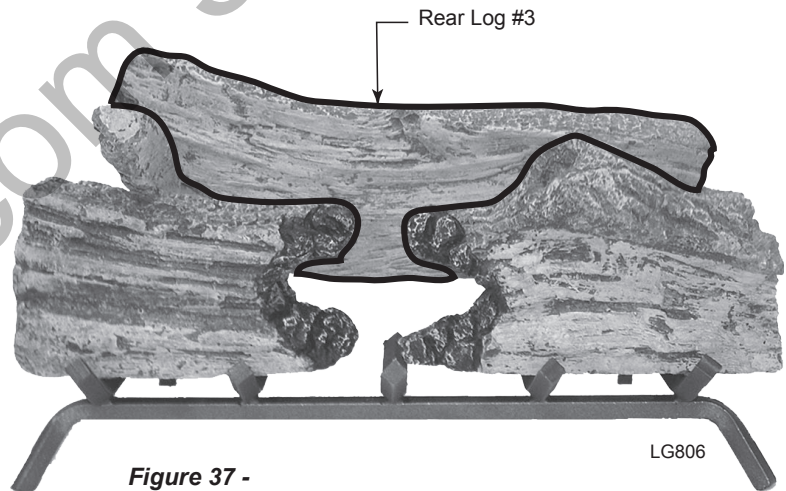

Figure 37 - Place Rear Log #3
4. Fit cutout in the bottom left of Rear Log #3 over the back end of Log #2. Rest right end of Log #3 on rear grate bar. *Figure 37*